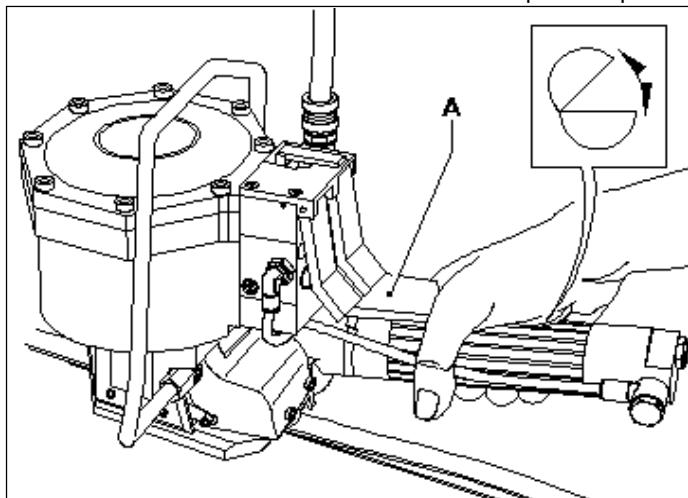

FIG. 4
- Premere la leva (A) per aprire la macchina e inserire le due regge (fig.4)
- Squeeze the air motor and lever (A) together to open the tool and pass both straps together into the tool release lever (A) and the strap guide will lower and hold the straps parallel in the tool (Fig.4).